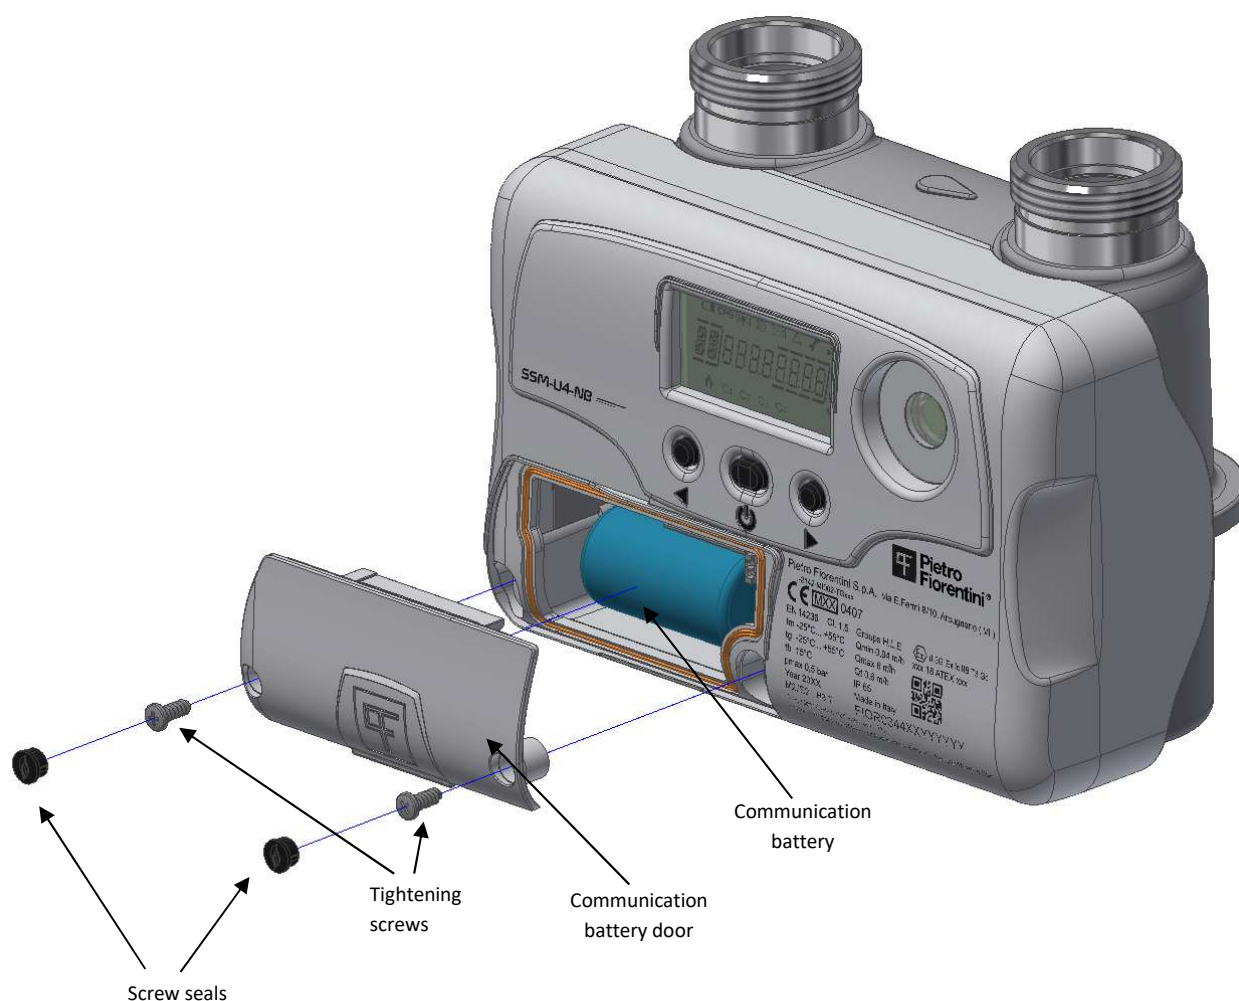

Figure 6 – Battery replacement
Repeat the same steps in reverse order to connect the new battery (**Fig.6**).
- Remove the seals on the front battery cover (fig.6);
- Unscrew the two tightening screws (fig.6).
- Remove the front battery cover (fig.6);